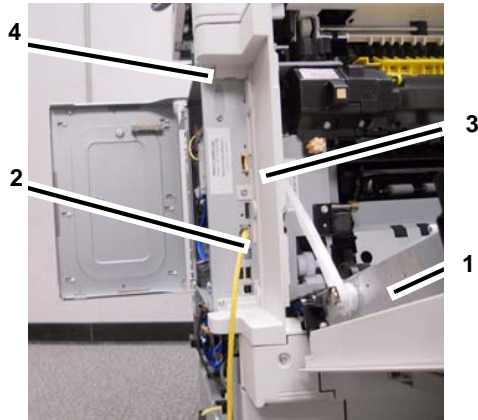

Figure 1 Removal Preparation
3. Remove the SBC Rear Cover. (Figure 1)